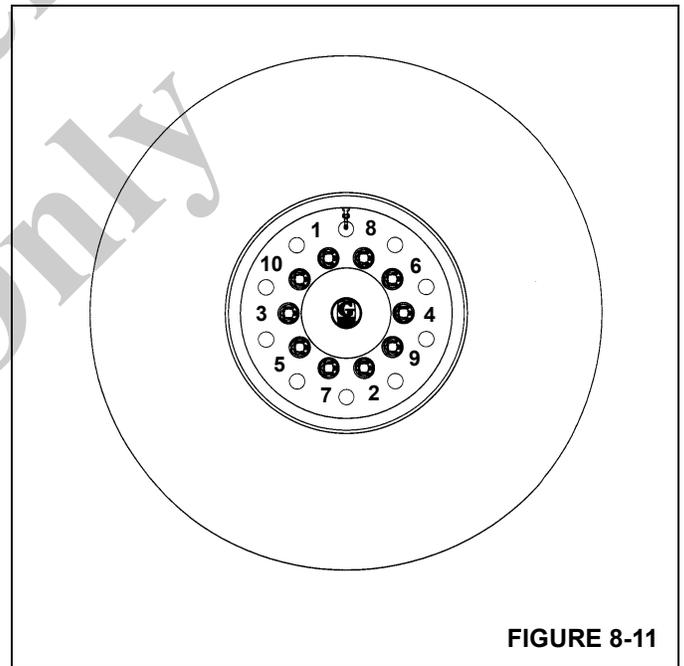

FIGURE 8-11
3. Torque the lug nuts 610 to 678 Nm (450 to 500 lb-ft) in the sequence shown in (Figure 8-11).